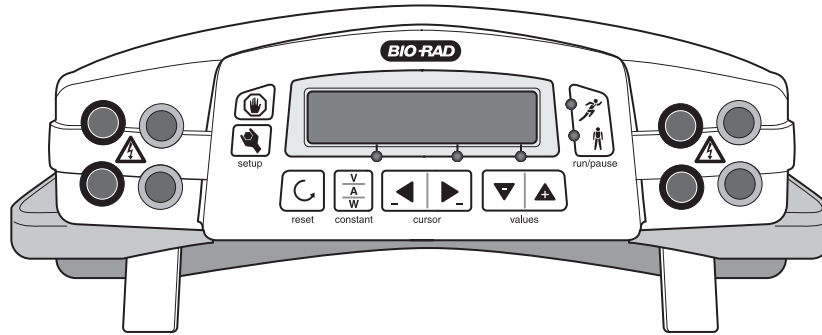

Fig. 3. Front View with Legs in Lowered Position.
- Stackable case with adjustable viewing angle via flip down legs (See Figure 3)